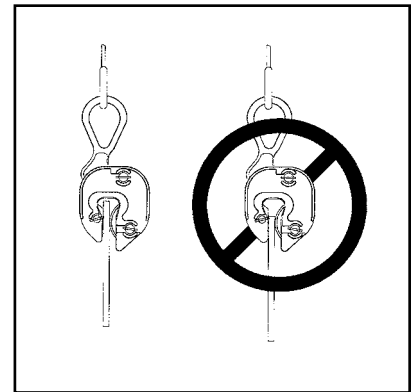

Figure 6
2. **DO NOT** lift a plate which cannot be inserted all the way into the clamp's throat opening. Insert the plate or flange to the full depth of the throat opening (Fig. 6). It is absolutely necessary for the cam and pad to have maximum contact on the plate to ensure a good, firm grip on the plate.